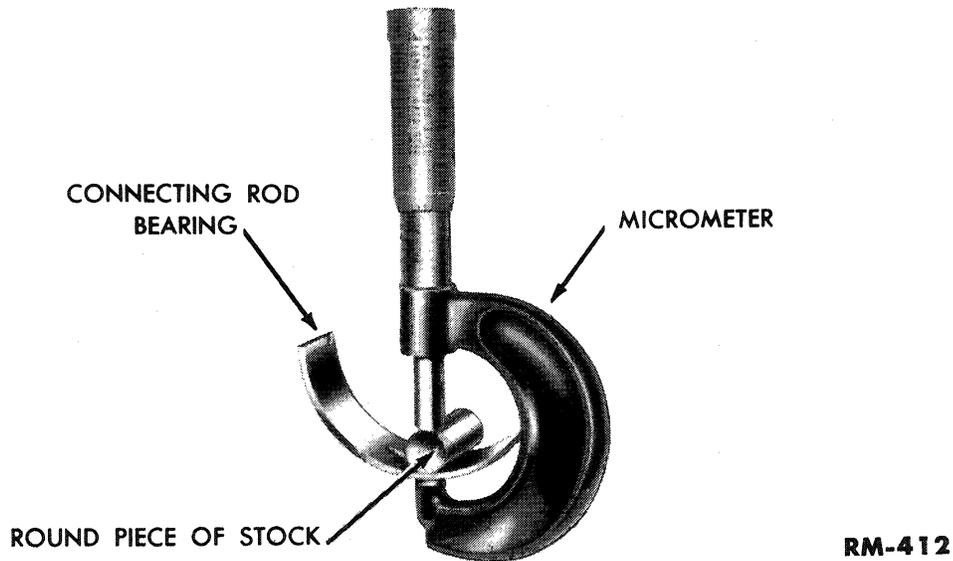

Fig. 22—Measuring Connecting Rod Bearing for Wear
(4) **CONNECTING ROD BEARINGS.** Replace connecting rod bearings that are worn, pitted, scored, or discolored (due to overheating). Bearings otherwise satisfactory but with small pits need not be replaced. Bearings must be replaced where pits extend to the side of the bearing and permit oil to escape. Place a plug gauge (a round piece of accurately ground or rolled bar stock) on the inside surface of the bearing, and measure the thickness of the two pieces (fig. 22). Deduct the thickness of the bar stock from the reading obtained to determine the thickness of the connecting rod insert bearing. Replace each connecting rod bearing that measures 0.005 inch or more under its original size.